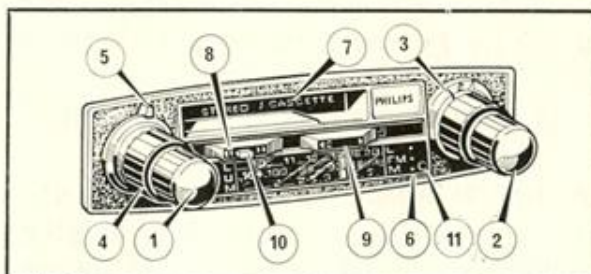

Figure 45 Stereo tape cassette player/radio
Operation of cassette player (see Figure 45)
Slide the cassette with its full reel facing you and the aperture to the right-hand side into the cassette compartment (Figure 45). The tape is now ready for use, playing side 1. When side 1 has been played or completely reeled, the cassette can be turned round and side 2 played. The cassette is removed by pushing key 9 to the left.